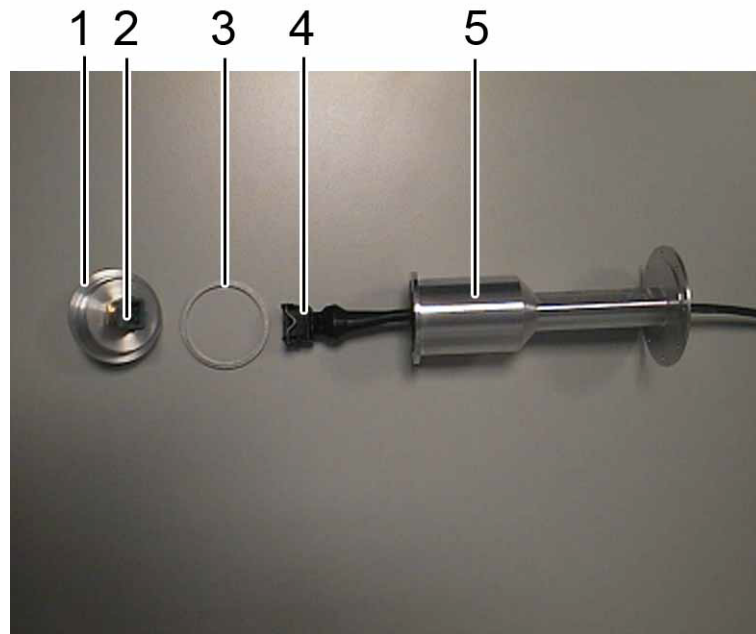

Fig. 28-11a Fuel Temperature Sensor C-172 F,G,H,I,K,L,M,N,P with TAE 125-01 installation
- (1) Remove the tank. Refer to the aircraft manufacturer's specifications.
- (2) Remove the rivets of the fitting for the fuel temperature sensor.
- (3) Remove the fitting of the fuel temperature sensor.
- (4) Remove the cover of the fitting.
- (5) Disconnect the connector of the fuel temperature sensor.
- (6) Remove the fuel temperature sensor. See Fig. 28-11a.